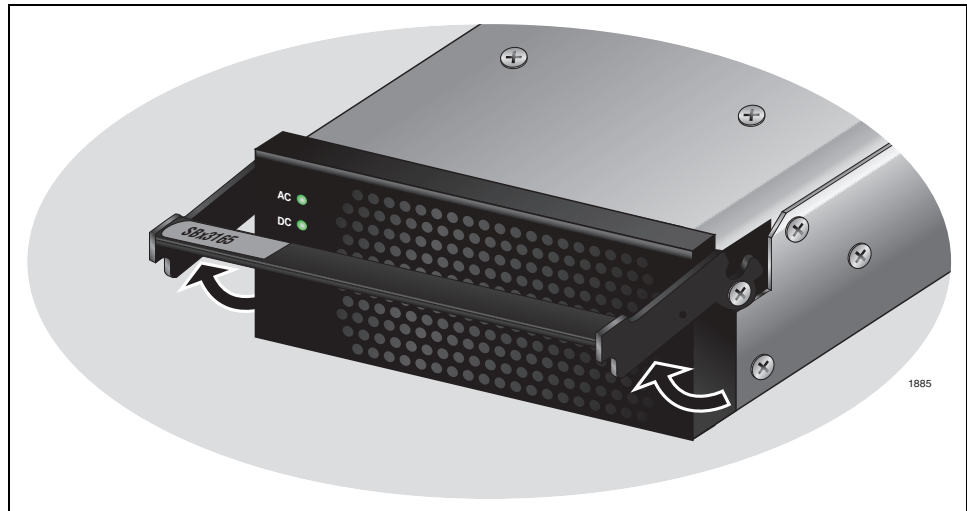

Figure 37. Unlock the Handle on the AT-SBx3165 PoE Power Supply
5. Move the locking handle on the AT-SBx3165 to the unlocked or up position. See Figure 37 on page 66.